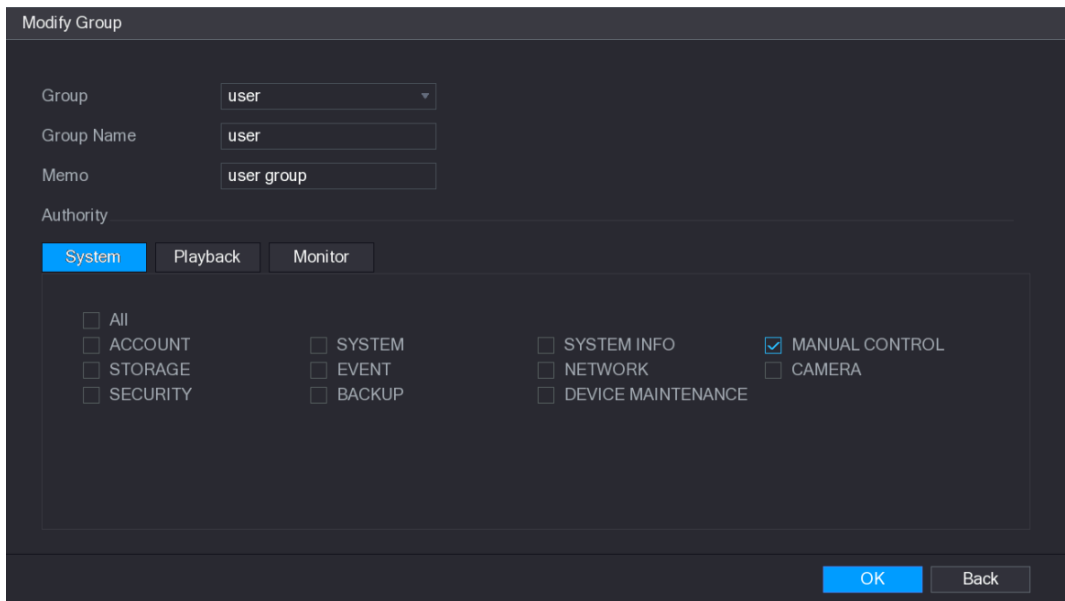

Figure 5-246
Step 3 The **Modify Group** interface is displayed. See Figure 5-246.